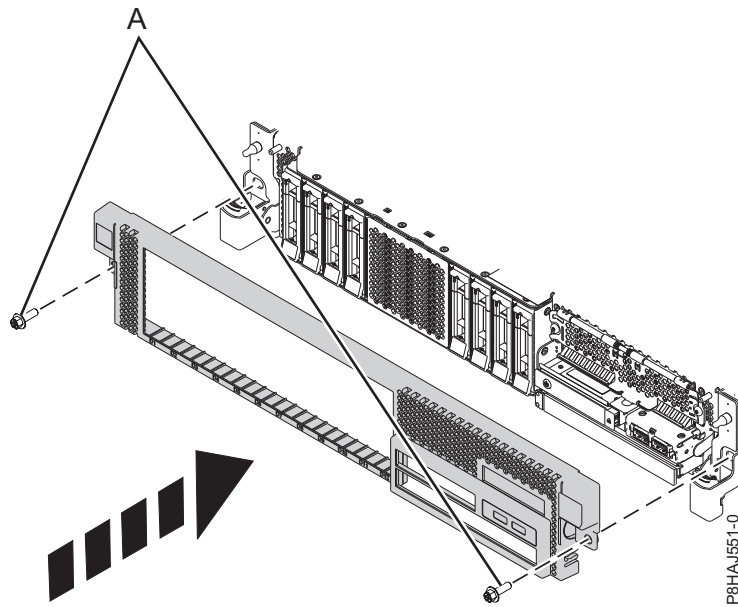

Figure 20. Installing the front cover
3. Close the release latches by pushing in the direction shown in Figure 20 on page 37. The cover snaps into place and has an indentation where you can hold onto it more easily.
4. Replace the shipping screws (A).